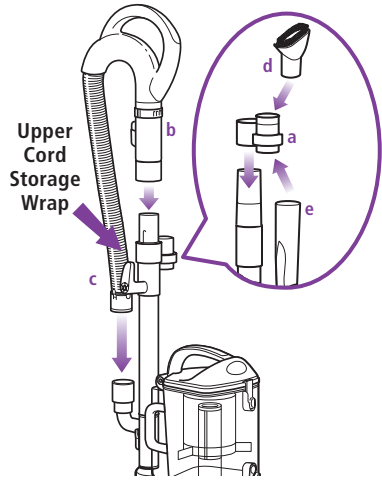

Fig. 9
- 4 Slide the accessory holder **(a)** positioned opposite the upper cord wrap, over the extension wand. Align the tab with the groove and push down. **(Fig. 9)**
- 5 Push the handle **(b)** onto the top of the extension wand until you hear it click into place. **(Fig. 9)**
- 6 Insert the end of the stretch hose **(c)** into the connector on the back of the detachable canister. **(Fig. 9)**
- 7 Store the dusting brush **(d)** and the crevice tool **(e)** on the mounts of the accessory holder. **(Fig. 9)**